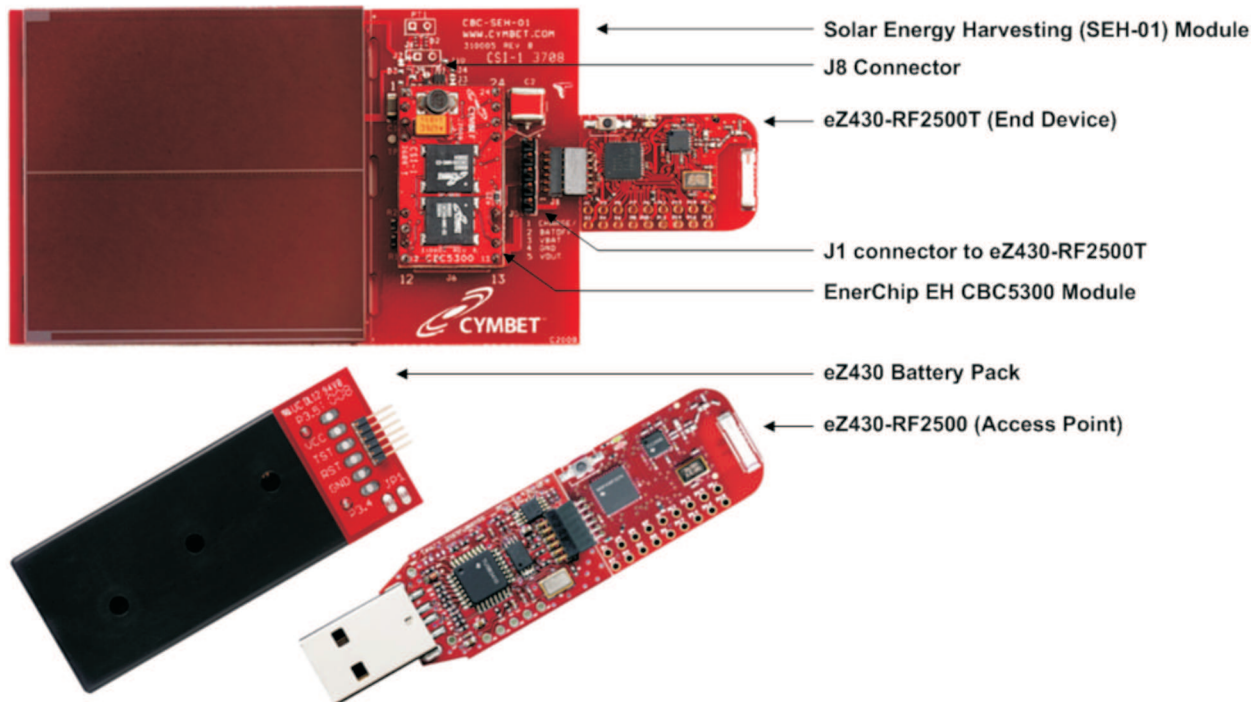

Figure 1-2. eZ430-RF2500-SEH Development Tool Features
1. Remove the Battery Enable jumper, J8 (see Figure 1-2).